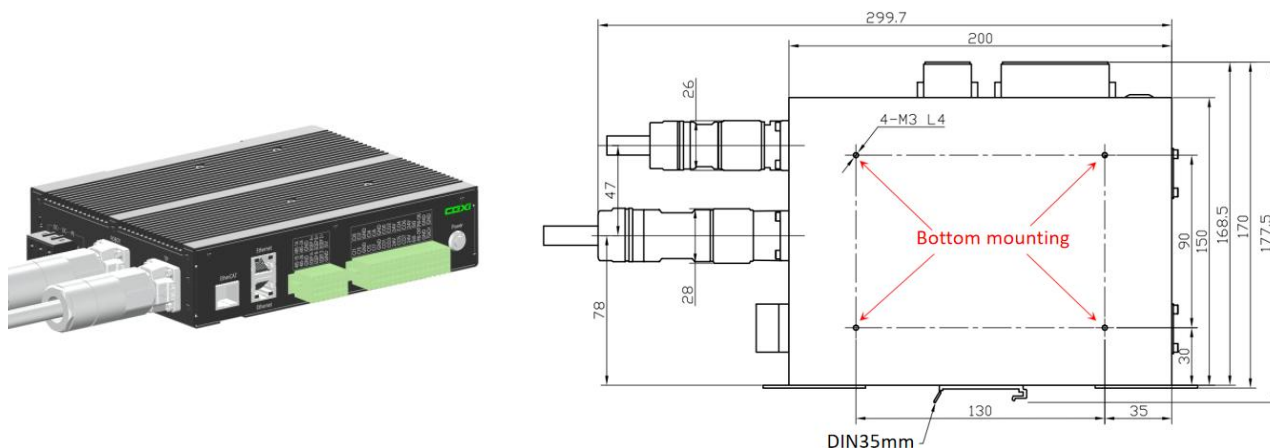

Figure 57 Bottom mounting, unit mm
- Bottom surface installation: The installation method and interface for bottom surface installation are shown in Figure 57.